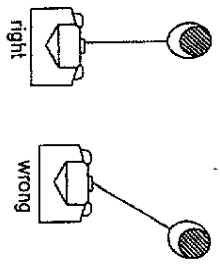

Figure 2
5. **AVOID CONTINUOUS PULLS FROM EXTREME ANGLES** as this will cause the wire rope to pile up on one end of the drum (Figure 2.) This can jam the wire rope in the winch, causing damage to the rope or the winch.